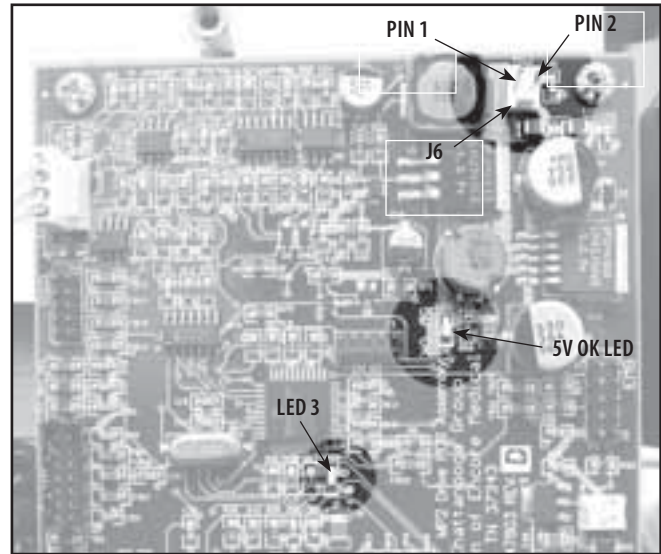

FIGURE 5.28
3. Observe Motor Control Board LEDs. The "5V OK" LED should be illuminated and LED 3 should be flashing. See Figure 5.28.
6. Set Multimeter to VDC. On Connector J6, connect the Red (+) Multimeter Lead to Pin 1 and the Black (-) Lead to Pin 2. See Figure 5.28. Take reading from Multimeter. Reading should be +5 VDC.